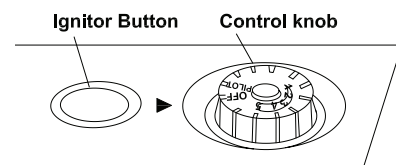

Figure 19 - Control Knob in the OFF Position
4. Wait five (5) minutes to clear out any gas. Then smell for gas, including near the floor. If you smell gas, STOP! Do not try to light any appliance. Do not touch electrical switch or use any phone in the building. Immediately contact gas supplier from a neighbor's phone. Follow gas supplier's instructions. If you can't reach the gas supplier, call the fire dept. If you don't smell gas, go to the next step.
5. Turn control knob counterclockwise ↺ to the PILOT position. Press in control knob for five (5) seconds (see Figure 19).
**Note:** The first time that the heater is operated after connecting the gas supply, the control knob should be depressed for about thirty (30) seconds. This will allow air to bleed from the gas system. If pilot does not stay lit, refer to *Troubleshooting*, pages 23 through 24. Also contact a qualified service technician or gas supplier for repairs. Until repairs are made, light pilot with match.
**Note:** If pilot goes out, repeat steps 3 through 7. This heater has a safety interlock system. Wait one (1) minute before lighting pilot again.